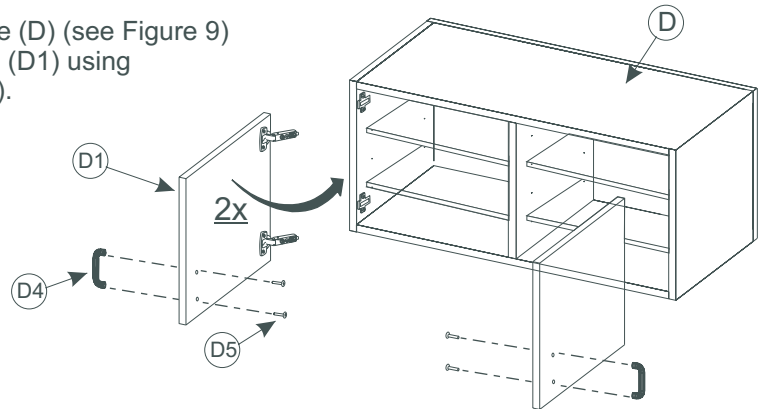

Figure 9
Install Upper Storage Doors (D1) to Upper Storage (D) (see Figure 9)
M4 x 25mm Pan Head Screws (D5) (see Figure 9).